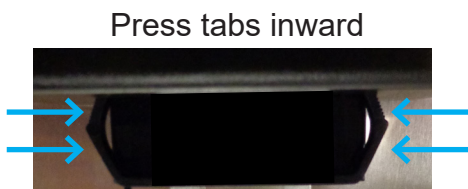

Figure 3
5. Using a #2 Phillips screwdriver, remove the six screws (B) securing the switch plate assembly to the inside of the Coolift enclosure. Carefully move the switch plate assembly inward and towards the enclosure rear opening; save the screws.
7. The battery meter must be removed to disconnect it from the switch plate. To release the battery meter from the Coolift enclosure, reach underneath the enclosure and find the tabs located on both sides of the meter (see Figure 3, below). Squeeze the tabs inward and ease the battery meter upward and out of the enclosure.